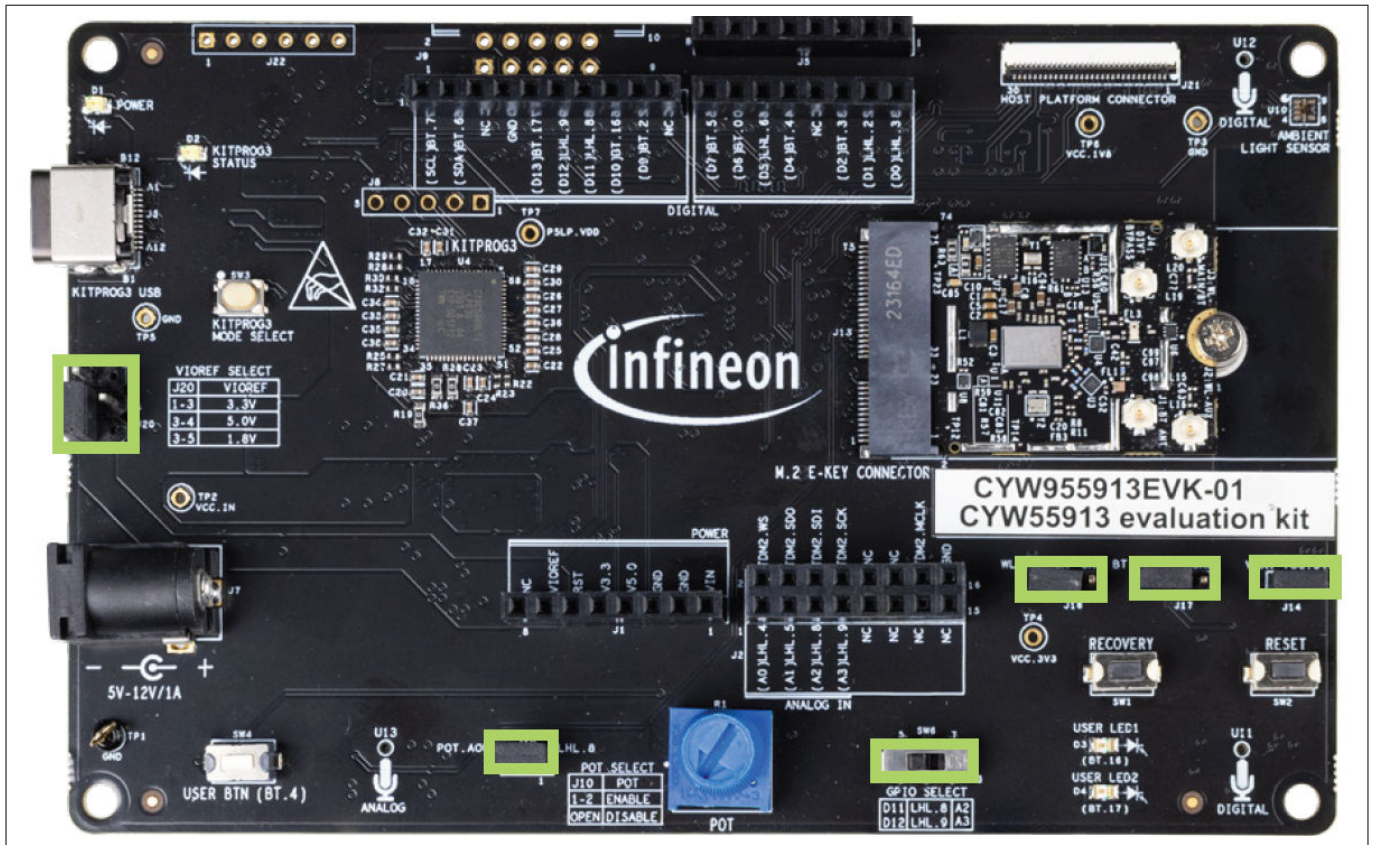

Figure 2 CYW955913EVK-01 default jumper settings
1. Verify that all the jumpers are in the default configuration, as shown in Table 3 to Table 6, so that the peripheral UART is selected and can display embedded application trace messages. Figure 2 shows the default jumper locations.